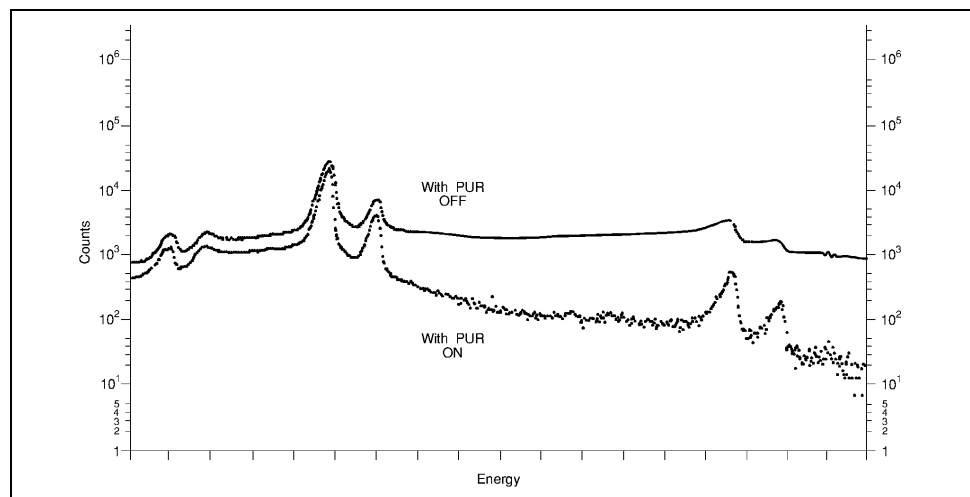

Figure 5.2 ^{60}Co at 50 kcps, 4 μs Shaping
f. Now accumulate a spectrum with the Amplifier's PUR function OFF. Compare the two spectra. The two spectra should look like Figure 5.2.